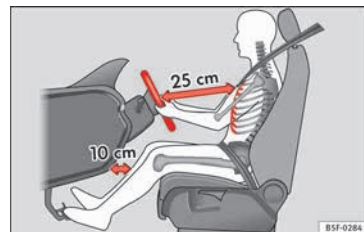
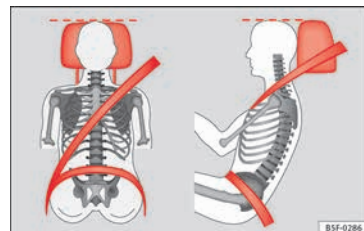

Fig. 81 The correct distance between the driver and the steering wheel must be at least 25 cm (10 inches).
Fig. 82 Correct belt web and head restraint positions
- Adjust the head restraint so that its upper edge is at the same level as the top of your head, or as close as possible to the same level as the top of your head and under no circumstances below eye level. Keep the back of your neck as close as possible to the head restraint »» Fig. 81 and »» Fig. 82.
- Adjust the steering wheel so that there is a distance of at least 25 cm (10 inches) between it and your chest »» Fig. 81 and so that you can hold the steering wheel with both hands on the outside of the ring at the 9 o'clock and 3 o'clock positions with your arms slightly bent.
- Adjust the driver seat forwards or backwards so that you are able to press the accelerator, brake and clutch pedals to the floor with your knees slightly angled and the distance between your knees and the dash panel is at least 10 cm (4 inches) »» Fig. 81.